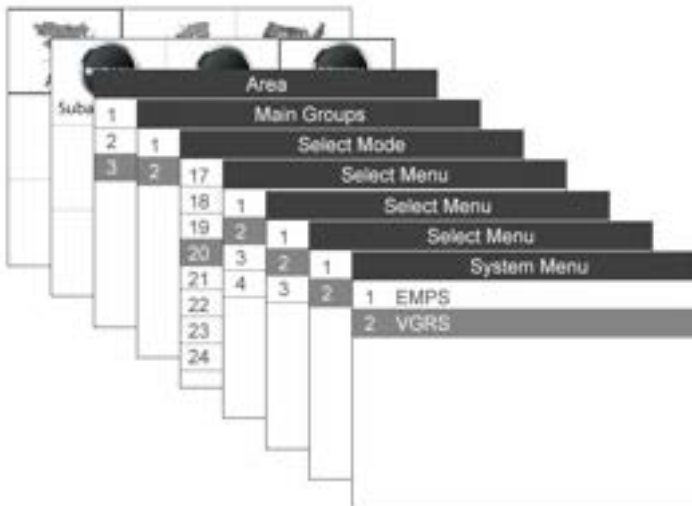

Figure 10.1
8. Wait for a series of vehicle identification screens appears for user to identify the vehicle (*Figure 10.1*). On each screen that appears, use the **UP/DOWN** scroll button to select the correct option and then press the **OK** button. Do this until the vehicle is completely identified.